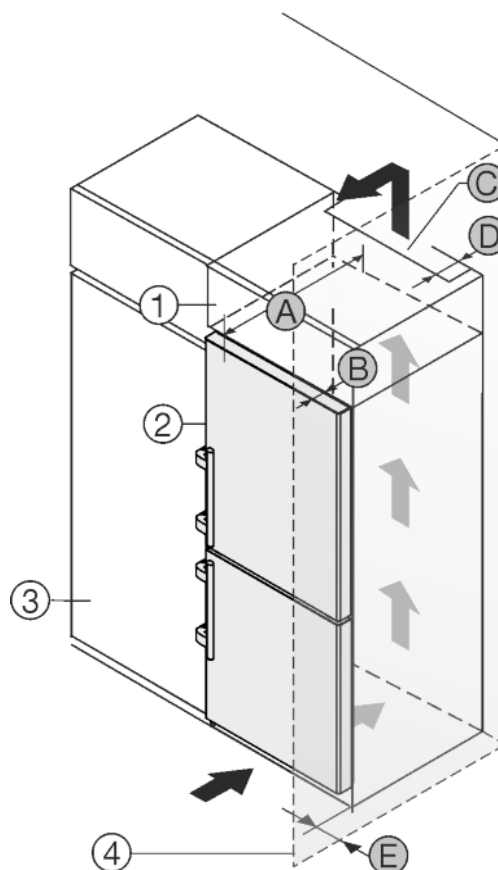

Fig. 47
The appliance can be built into kitchen units. A top cupboard *Fig. 47 (2)* can be added above the appliance in order to bring the appliance *Fig. 47 (1)* up to the height of the fitted kitchen units.
The appliance can be installed right next to the kitchen cabinet *Fig. 47 (3)*. The appliance must stick out by the depth *Fig. 47 (B)* from the front of the cabinet so that the doors can be opened fully. The appliance may protrude further depending on the depth of the kitchen cabinets and whether wall spacers are used.
- There must be a ventilation shaft with the depth *Fig. 47 (D)* at the back of the top cupboard over the entire width of the cupboard.
- The ventilation shaft *Fig. 47 (C)* must be observed under the ceiling.
If the appliance is installed with the hinges next to a wall *Fig. 47 (4)* the distance *Fig. 47 (E)* between the appliance and the wall must be observed. This is how far the handle protrudes when the door is open.